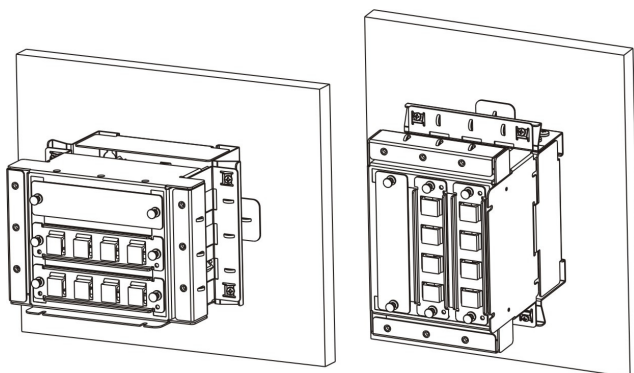

Figure 2. Installation Options
4.1 Wall Mounting The VMC03-000 can be installed on a telecom $\frac{3}{4}$ " plywood backboard in different orientations, such as front horizontal or front vertical. The VMC03-000 supplied #6 x $\frac{3}{4}$ " mounting screws are angled for ease of installation. Refer to Figure 2 for reference.